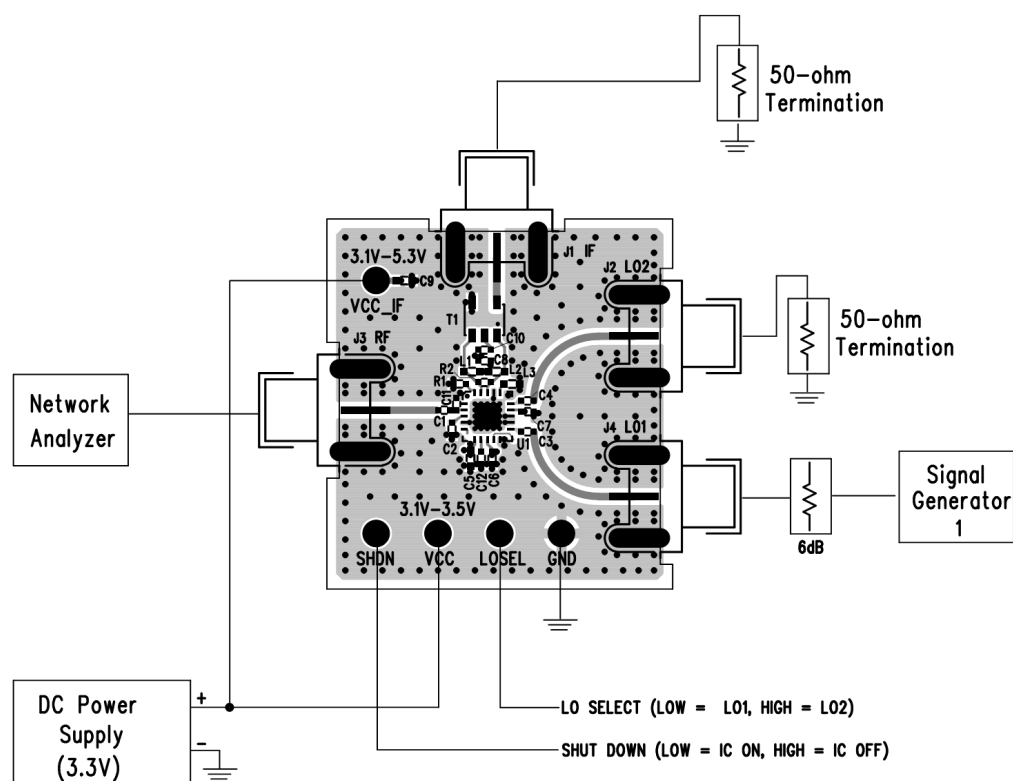
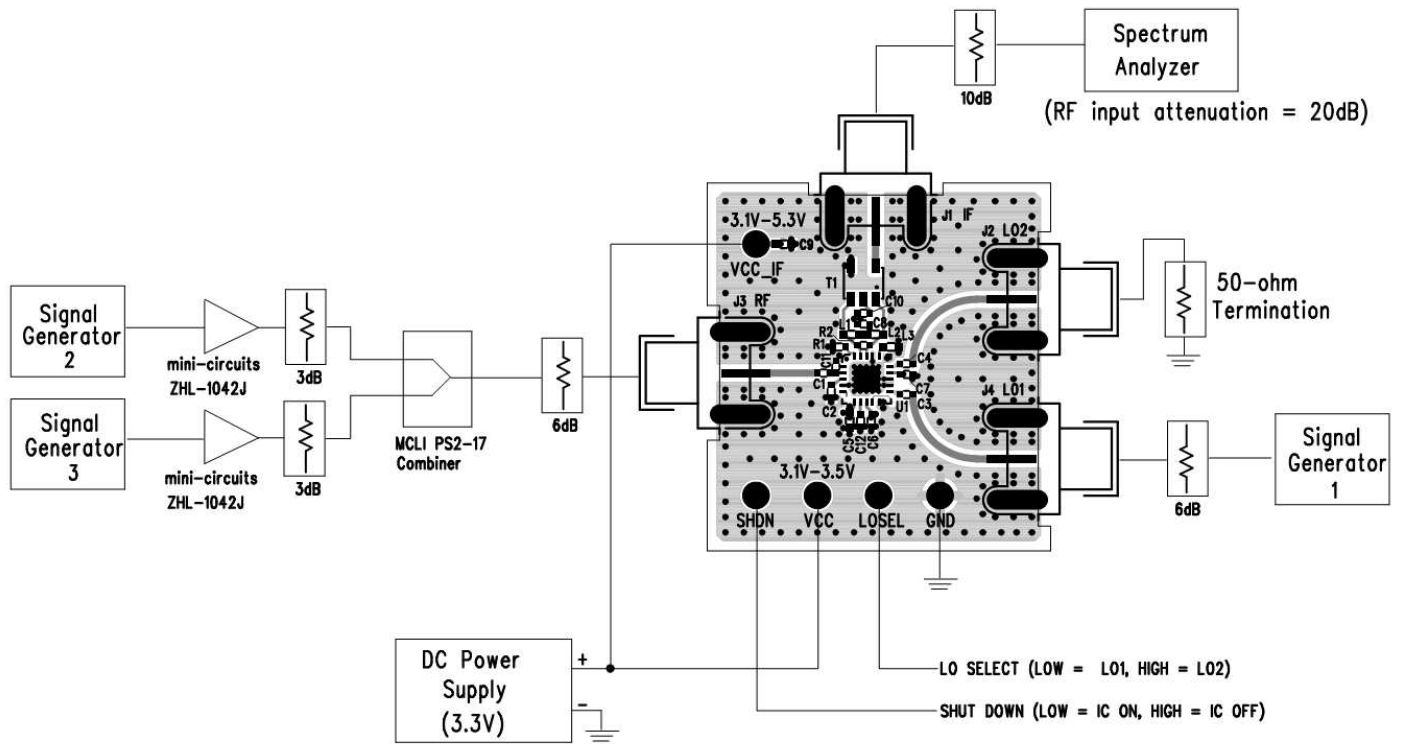
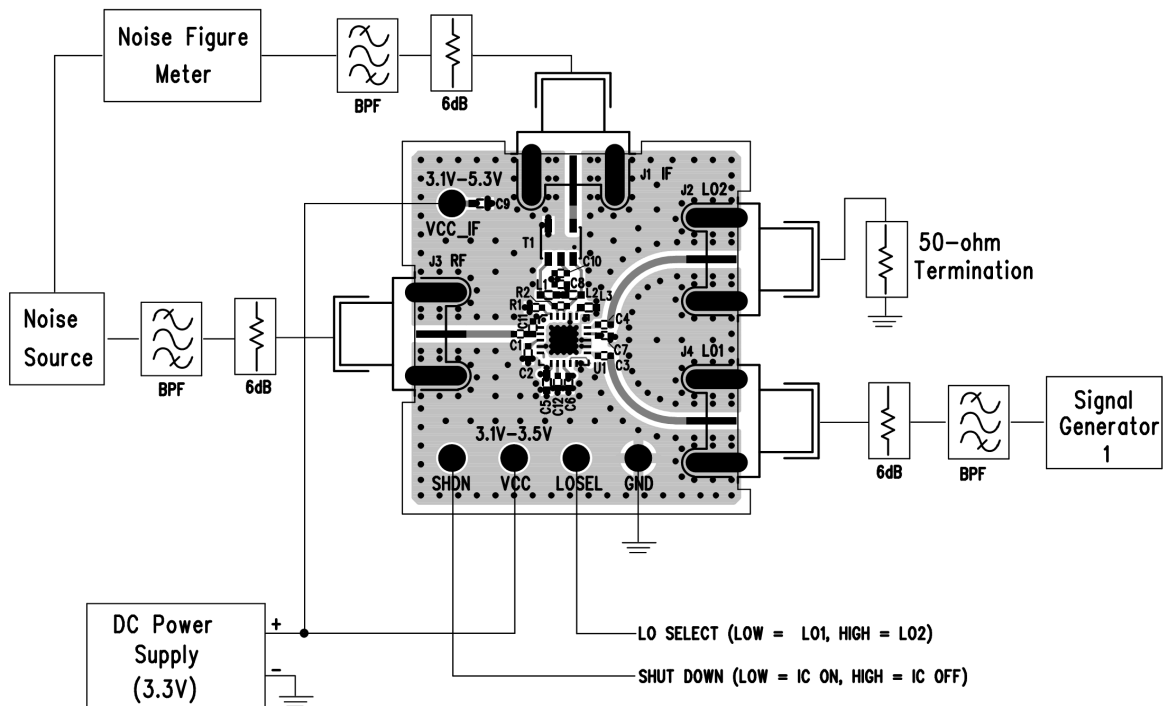

Figure 5. Proper Equipment Setup for Return Loss Measurements
Figure 6. Proper Equipment Setup for RF Performance Measurements
Figure 7. Proper Equipment Setup for Noise Figure Measurement
The LTC5540 is a high dynamic range downconverting mixer IC with very high input 3rd order intercept. Accuracy of its performance measurement is highly dependent on equipment setup and measurement technique. The recommended measurement setups are presented in Figure 5, Figure 6, and Figure 7. The following precautions should be observed:
The LTC5540 consists of a high linearity passive double-balanced mixer core and IF buffer amplifier. Due to the bi-directional nature of all passive mixers,  $\text{LO}\pm\text{IF}$  mixing product is always present at the RF input, typically at a level of 12dB below the RF input signal. If the  $\text{LO}\pm\text{IF}$  "Pseudo-Image Spur" is not properly terminated, it may interfere with the source signals, and can degrade the measured linearity and noise figure significantly. To avoid interference from the  $\text{LO}\pm\text{IF}$  "Pseudo-Image Spur", terminate the RF input port with an isolator, diplexer, or attenuator. In the recommended measurement setups presented in Figure 6 and Figure 7, the 6dB attenuator pad at the demonstration circuit's RF input serves this purpose.
Demonstration circuit 1431A-A is easy to set up to evaluate the performance of the LTC5540. Refer to Figure 5, Figure 6, and Figure 7 for proper equipment connections and follow the procedure below:
3. Connect all test equipment as shown in Figure 5 with the signal generator and the DC power supply turned off.
1. Connect all test equipment as shown in Figure 6 with the signal generators and the DC power supply turned off.
2. Connect all test equipment as shown in Figure 7 with the signal generator and the DC power supply turned off.